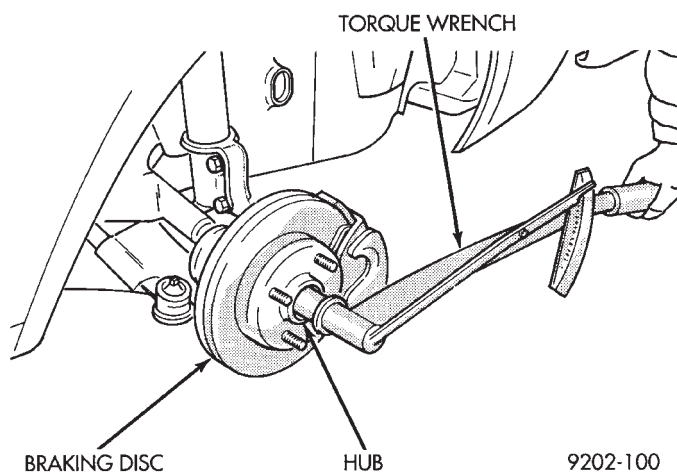

Fig. 47 Torquing Front Hub Nut
(10) With vehicle brakes applied to keep stub axle from turning, tighten hub nut to a torque of 244 N·m (180 ft. lbs.) of torque (Fig. 47).